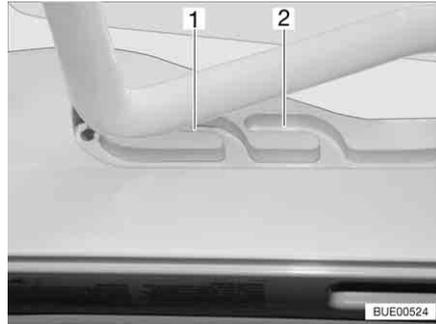
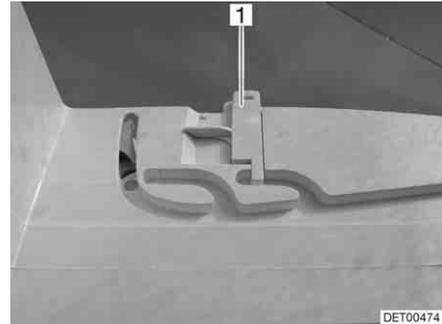

Fig. 59 Heki skylight in ventilation position
Fig. 60 Ventilation position locking mechanism
The Heki skylight can be put in two ventilation positions: Bad weather position (Fig. 59,1) and central position (Fig. 59,2). Depending on the model, the skylight can be locked in the central position with the latch (Fig. 60,1).
- Push the bar slightly upwards and into the selected guide (Fig. 59,1 or 2) and lock if necessary.